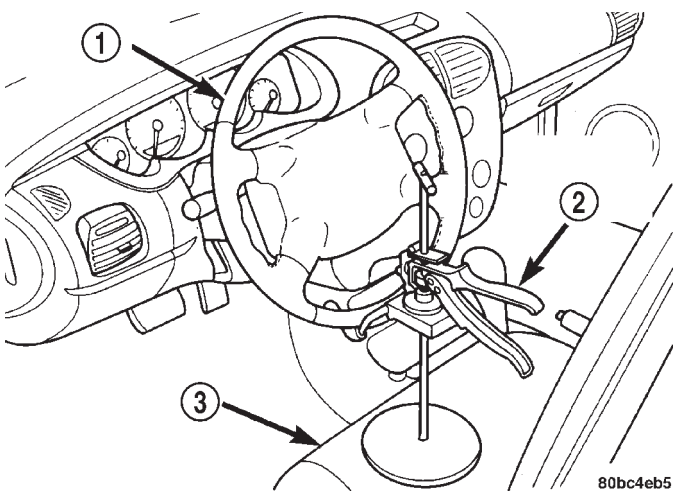

Fig. 21 Steering Wheel Holder
(1) Place the steering wheel in the **STRAIGHT-AHEAD** position. Using a steering wheel holder, lock the steering wheel in place to keep it from rotating (Fig. 21). This keeps the clockspring in the proper orientation.